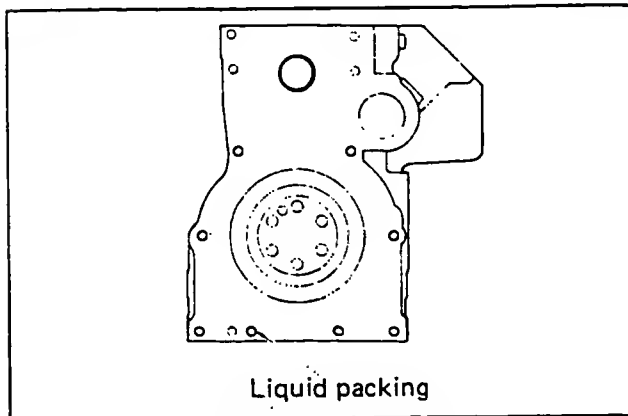

Figure 4. Liquid Packing
5. Install flywheel cover. Spread liquid packing over the M10 screw hole of the cylinder block flywheel cover face (Figure 4), then fit the flywheel over it.